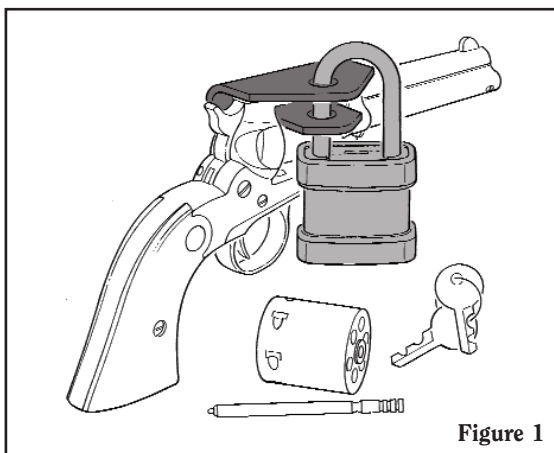

Figure 1
4. Apply the clamp as show in Figure 1.
5. Apply the lock by placing the shackle of the lock into the clamp as shown in Figure 1.